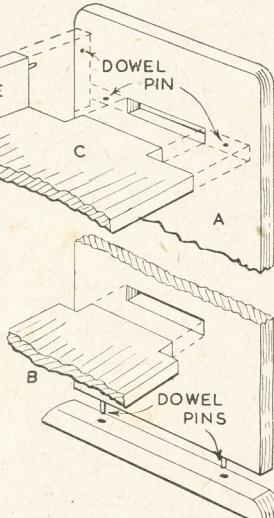

Fig. 3—Details of shelf and foot joints
Both these pieces are fitted into the sides by the open mortise and tenon joint, shown in detail in the constructional diagram, Fig. 3.
When the tenons have been glued into the uprights some dowel pins may be driven in to strengthen the joint (see Fig. 3) where the shelf (C) is to run into the upright (A).
length measurement is given for these, and a thicker piece of wood could be got for these than $\frac{1}{2}$ in. Then the dowel pins which hold them have a better fixing. See Fig. 3 for the method of fixing the dowels. Some workers may desire the simpler method of screwing.